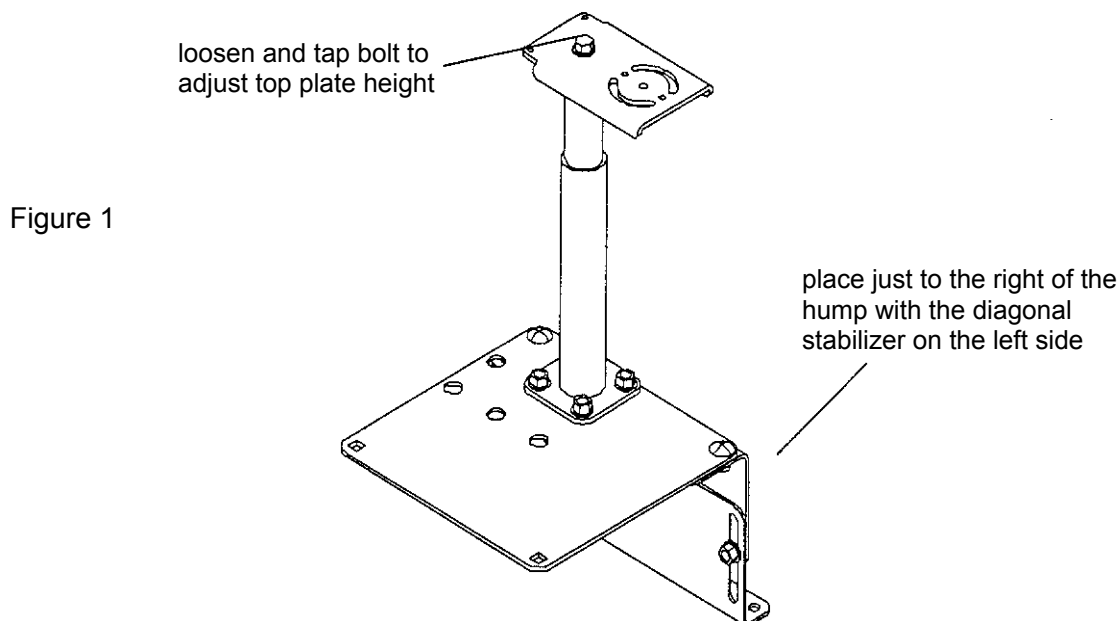

Figure 1
1. Assemble the base as shown in Figure 1. Place the square plate so the countersunk holes face down. Place the post assembly on the plate, so its four mounting holes are over the four holes closest to the center of the plate. Pass (4) 3/8-16 flat head screws up through the holes in the plate and post assembly, and add washers and nuts.
2. Using 3/8-16 carriage bolts with washers and nuts, mount the other two parts as shown in Figure 1, but do not tighten these nuts. (Note that the hole pattern is located in the right rear corner.)
3. Before installing the base, orient the top plate on the post as shown in Figure 1. To do this, loosen the bolt at the top of the post one turn. If necessary, tap on the top of the bolt until the upper part of the post moves freely.